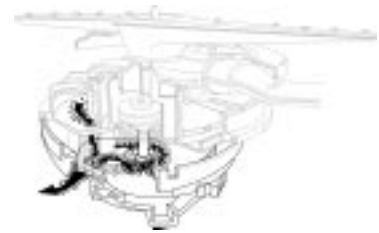

Fig. 3-3
5. Soiled water is pumped out of the dishwasher through the check valve and drain hose. (Fig. 3-3)